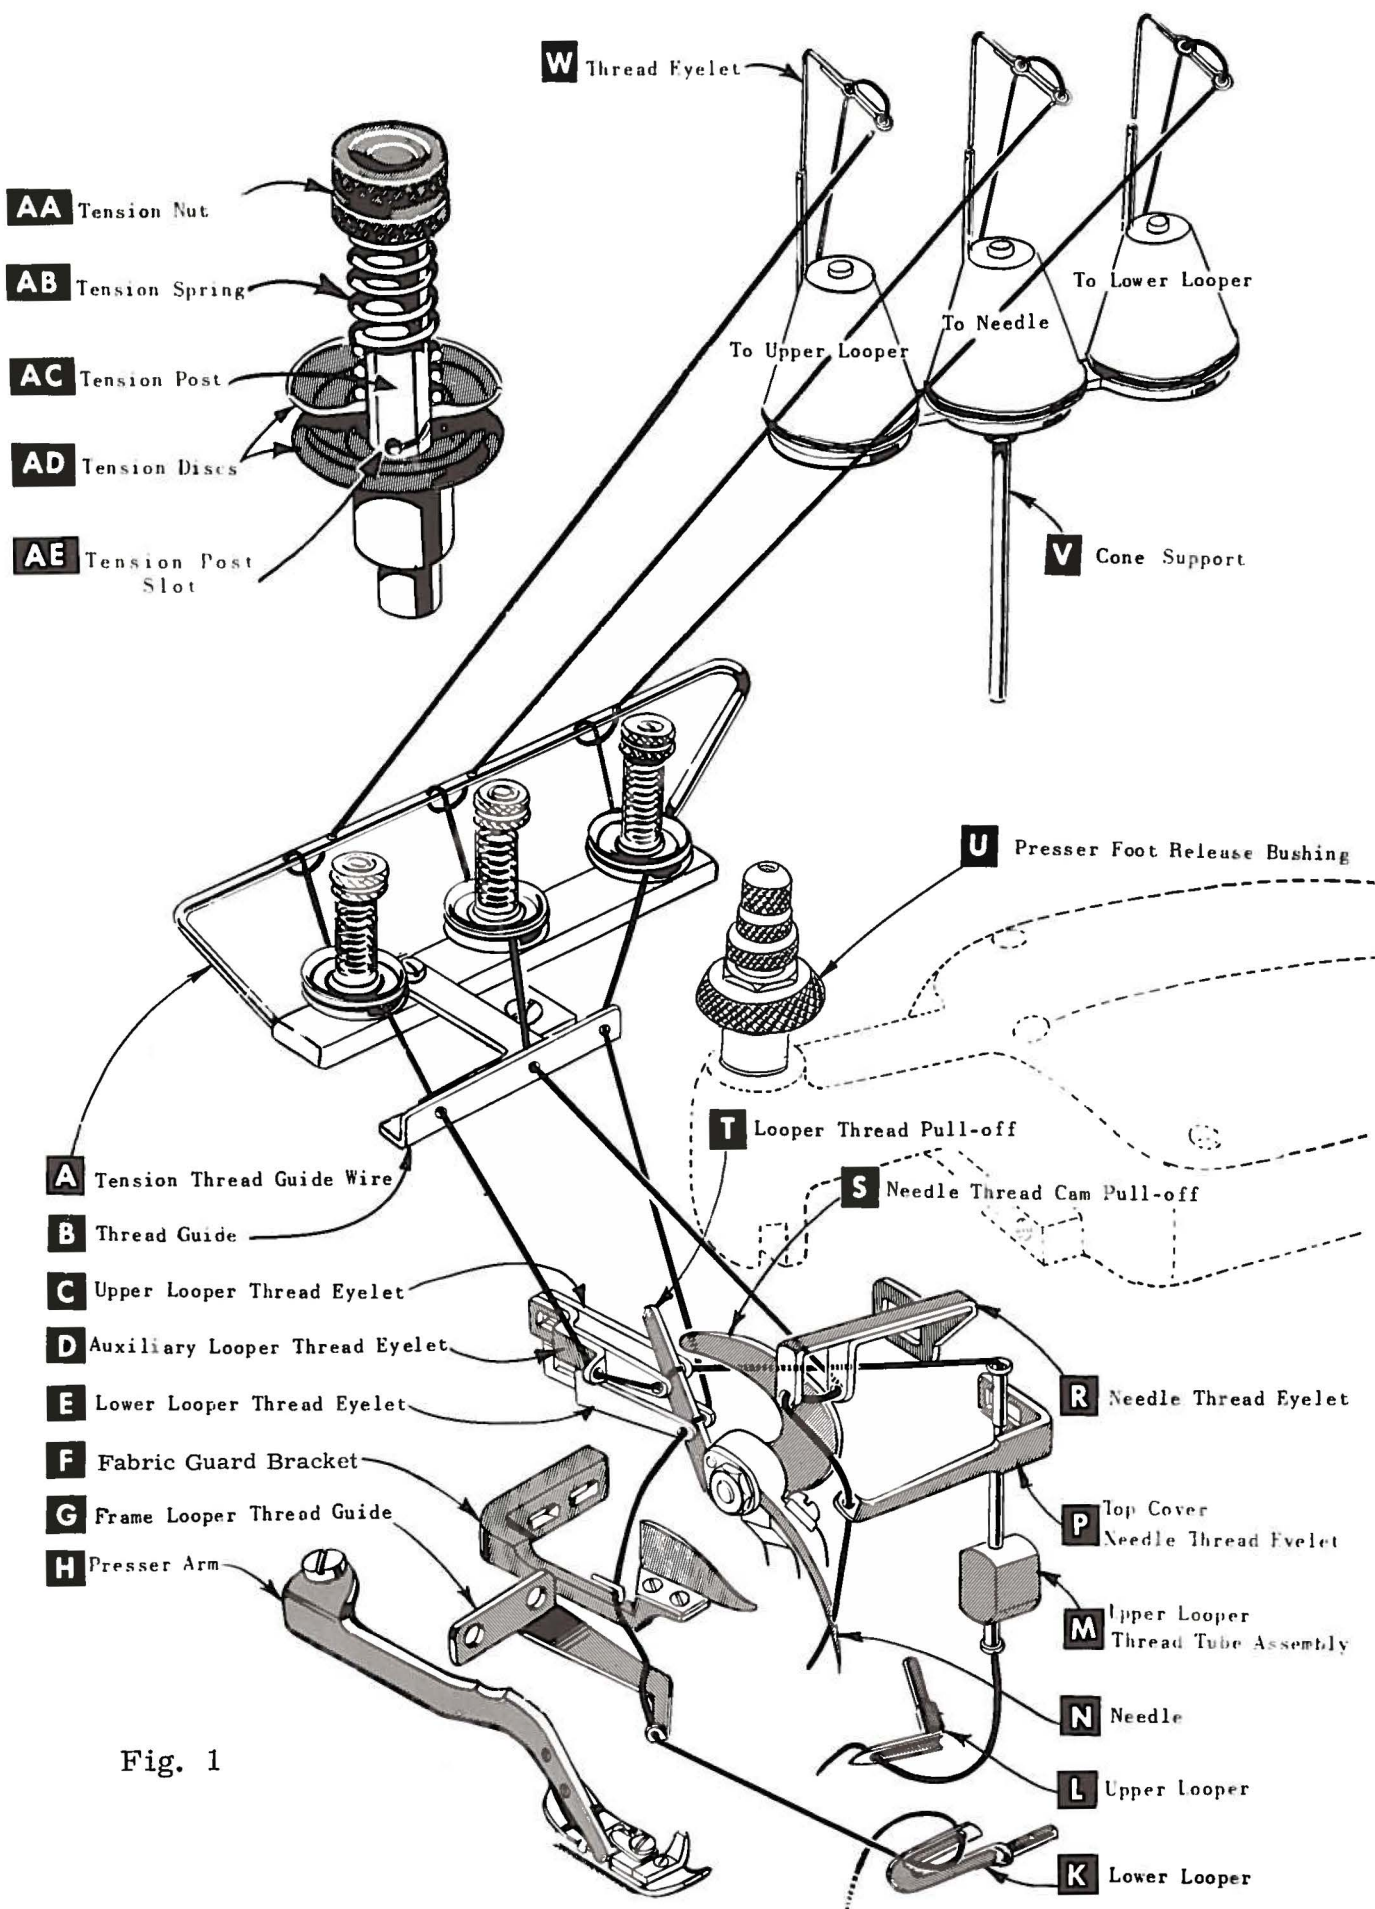

Fig. 1
After thread comes from the cone on thread stand (V, Fig. 1), it is brought up through the back thread eyelet, then down through front thread eyelet (W). Next it is threaded through each pair of holes in tension thread guide wire (A), down right hand hole and up through left hand hole. Then thread continues between tension discs (AD), through slot (AE), and on through thread guide (B).
Only parts involved in threading are shown in threading diagram (Fig. 1). Parts are placed in their relative positions for clarity.
Double end of thread and lead it through both eyes of the lower looper thread eyelet (E, Fig. 1) from right to left. NOTE: Thread must pass in front of looper thread pull-off (T). Lead thread behind fabric guard (F) and through hole of frame looper thread guide (G). Turn handwheel in operating direction until heel of lower looper (K) is all the way to the left; then thread through both eyes from left to right. The left eye of the lower looper can be threaded easily if tweezers are in left hand.
Turn the handwheel in operating direction until the needle (N, Fig. 1) is at its highest position. Insert the needle thread from right to left, through both eyes of the needle thread eyelet (R), under the neck of the top cover casting; then down through the hole in the top cover needle thread eyelet (P). Thread the needle from the front.
The amount of tension on the needle and looper threads is regulated by three knurled tension nuts (AA, Fig. 1). Tension on the threads should be only enough to secure proper stitch formation.
Be sure machine is threaded according to threading diagram (Fig. 1, page 5). With thread tensions light, set looper thread eyelets (C, E) about horizontal and in the middle of their front to back locations. Operate machine slowly, without presser foot in place, to make sure that chain forms and moves off the tongue freely. Swing presser foot into position, insert material and sew slowly.
While sewing on material, check needle thread control as follows: Usually all the needle thread is drawn on needle down stroke. At top of needle stroke, thread should be just tight enough to feed chain off the stitch tongue. Stitch tends to pull down slightly if excessive thread is pulled on the up stroke. With needle at bottom of stroke, position needle thread eyelet (R, Fig. 1) so that needle thread cam pull-off (S) just contacts needle thread.
With material under presser foot, set lower looper thread eyelet (E, Fig. 1) back far enough so thread is a little slack when looper thread pull-off (T) reaches its most rearward position. Looper thread pull-off is set about 1/8 inch behind needle thread cam pull-off (S). Frame looper thread guide (G) should be set with its left hand eyelet approximately 1/8 inch right of lower looper (K) heel eyelet at the time lower looper is at extreme left end of its travel.
Before proceeding to adjust upper looper thread eyelet (C, Fig. 1) balance all three tensions to give a normal appearing stitch. Moderate change in these tensions will not markedly affect the purl.
To move the purl more under the edge, both looper thread eyelets (C, E, Fig. 1) should be raised, keeping the same amount of pull-off. Usually it is better to have slightly more pull-off on upper thread than on lower thread.